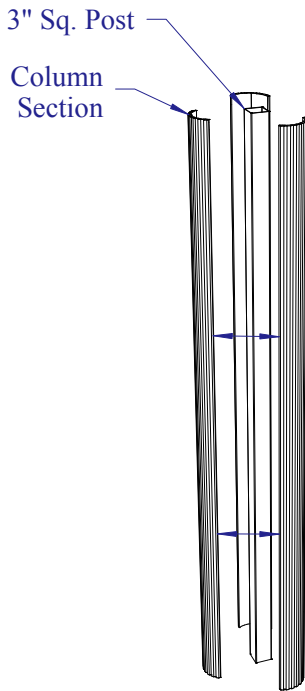

Fig. 4-7
- Stand the sections on end and snap the open ends together around a post (see Fig. 4-7).